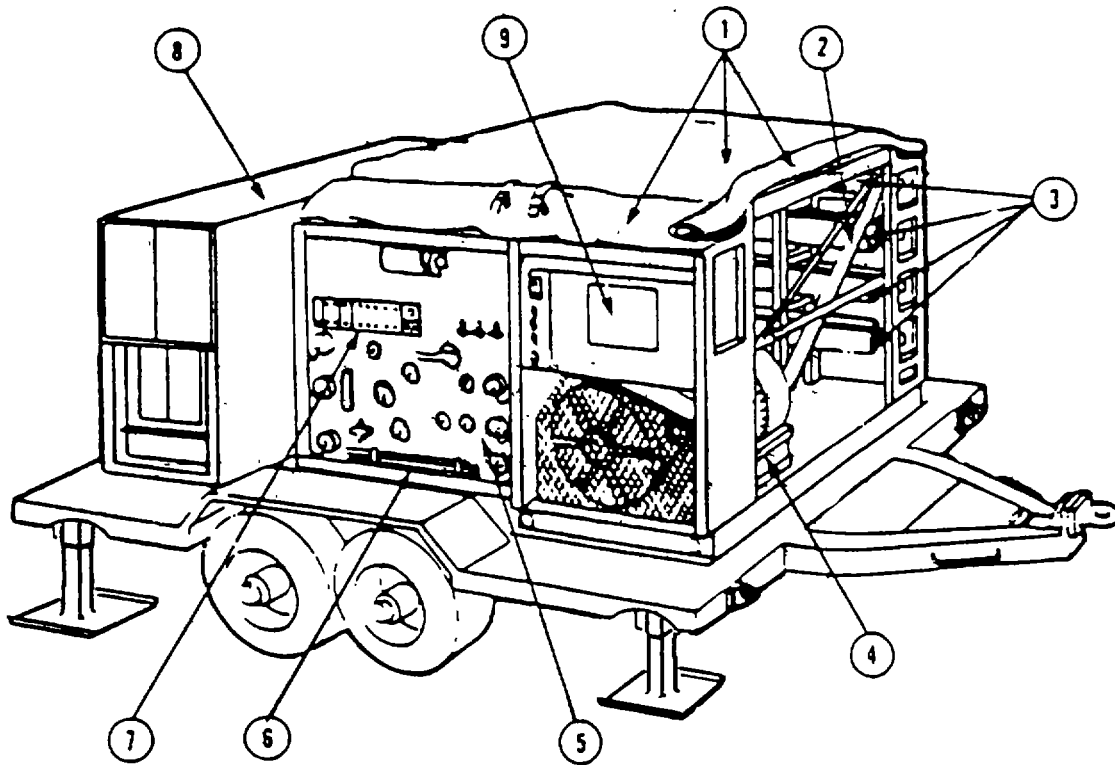

Figure 1-9. Control Panel Side Of ROWPU
c. Fig. 1-9 identifies the following parts:
**CANVAS COVERS (1).** Protect unit from weather. Rolled up and strapped during normal operation.
**CROSS BRACES (2).** Give strength to ROWPU frame during shipment. Can be removed to get at equipment.
**R.O. PRESSURE VESSELS (3).** Four vessels which house eight reverse osmosis elements that reduce total dissolved solids from filtered water to produce drinking water.
**R.O. PUMP (4).** Applies high pressure to raw filtered water in R.O. vessels.
**CONTROL PANEL (5).** Panel with meters, switches, valves, and hose connections.